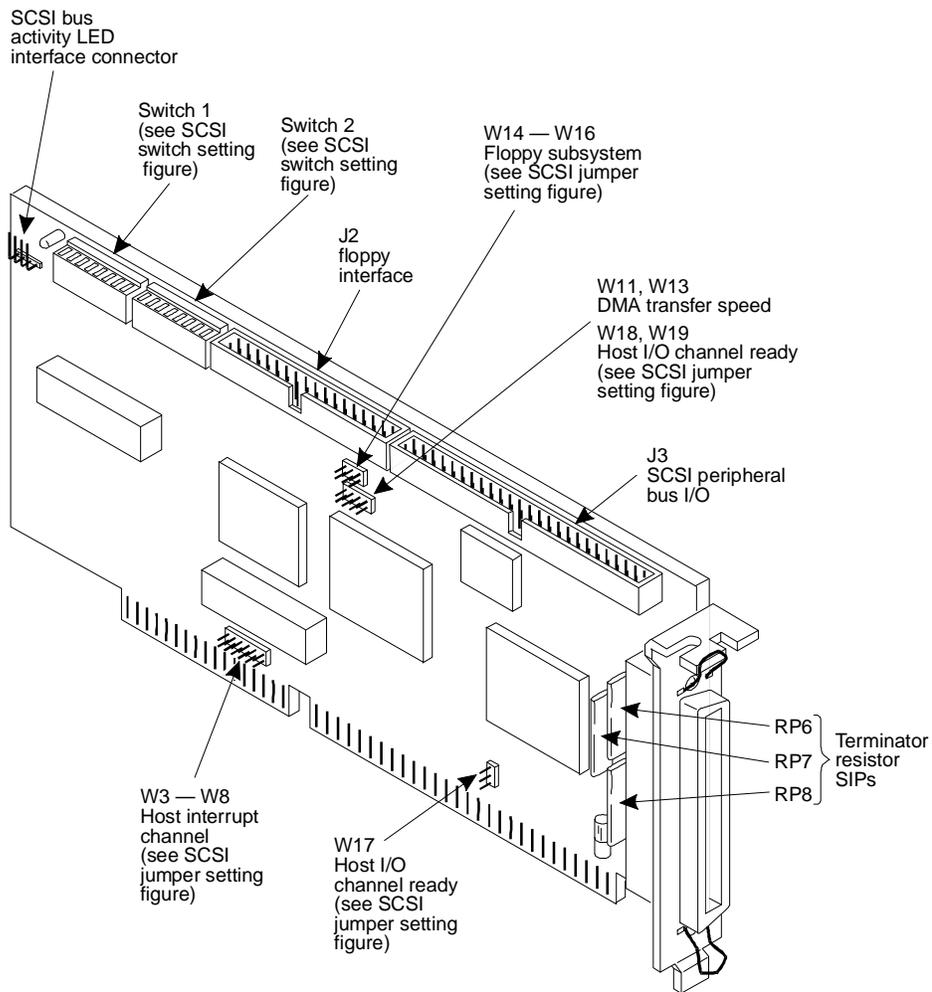
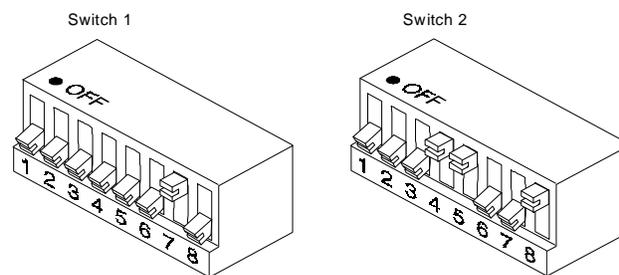
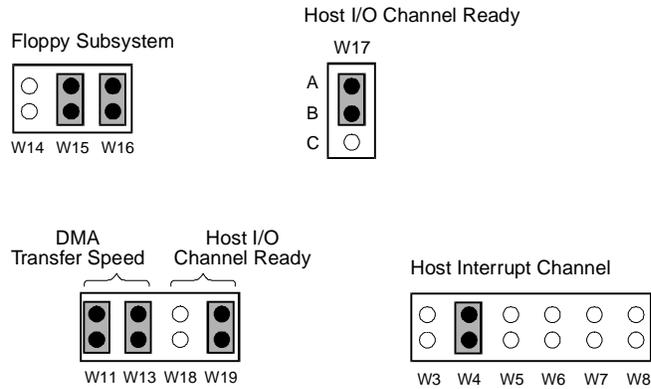

Figure 9-11. SCSI Host Adapter Controller Card
Figure 9-12. Switch Settings for the SCSI Host Adapter Controller Circuit Card
Figure 9-13. Jumper Settings for the SCSI Host Adapter Controller Circuit Card
The SCSI Host Adapter Controller circuit card (Figure 9-11) controls the hard drives, the floppy disk drive and the cartridge tape drive, as well as the SCSI bus LED front chassis panel indicators for these drives.
Figure 9-11 shows the location of the switches on the SCSI Host Adapter Controller circuit card. Figure 9-12 shows the switch settings. Table 9-2 and Table 9-3 provide a summary of the switch settings (the recommended settings are shown in bold type).
Figure 9-11 shows the locations of the jumpers on the SCSI Host Adapter Controller circuit card. Figure 9-13 shows the correct settings for these jumpers. Table 9-4 provides a summary of the jumper settings (the recommended settings are shown in bold).
1. Orient the card as shown Figure 9-11.
2. Ensure that the three terminating resistor SIPS are installed on the card (these are labeled as RP6, RP7, and RP8 in Figure 9-11).
4. Locate the jumpers on the card (these are labeled in Figure 9-11). Set the jumpers using the proper settings as shown in Figure 9-13.